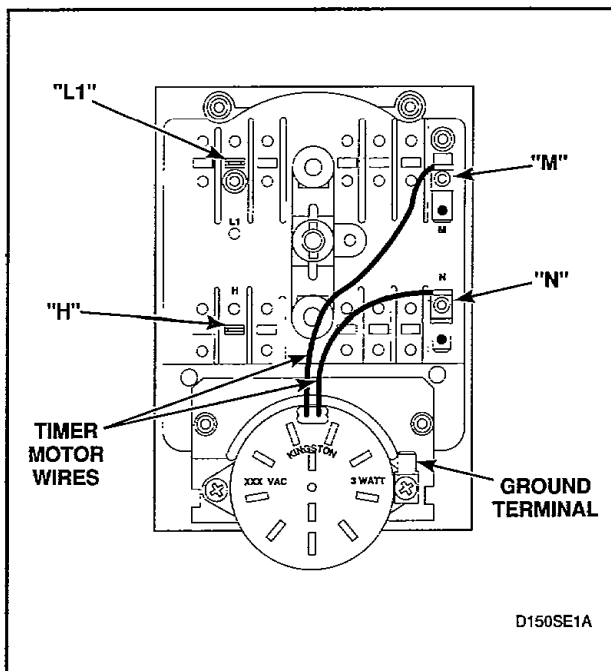

Figure 56
- Disconnect wires from timer, *Figure 56*, except timer motor wires.